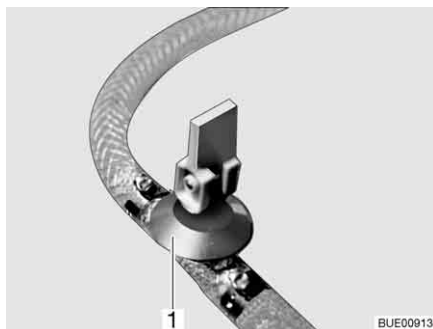
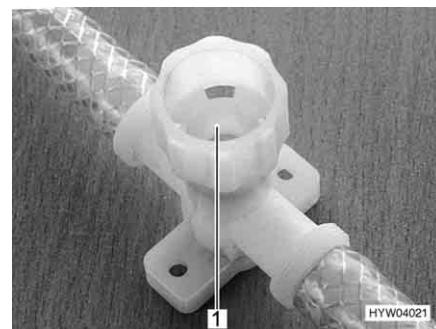

Fig. 238 Drain cock (with rocking lever)
Fig. 239 Drain cock (with twist cap)
- Close all drain cocks. To do this, position the drain cock's rocking lever (Fig. 238,1) horizontally or turn the drain cock's cap (Fig. 239,1) in a clockwise direction.